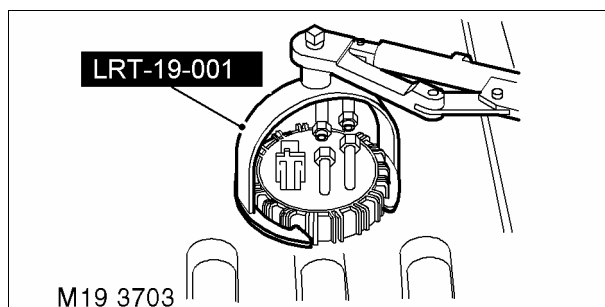

Fig. 5
- 13 Using **LRT-19-001** remove locking ring securing fuel pump tank unit assembly to fuel tank. Fig. 5.